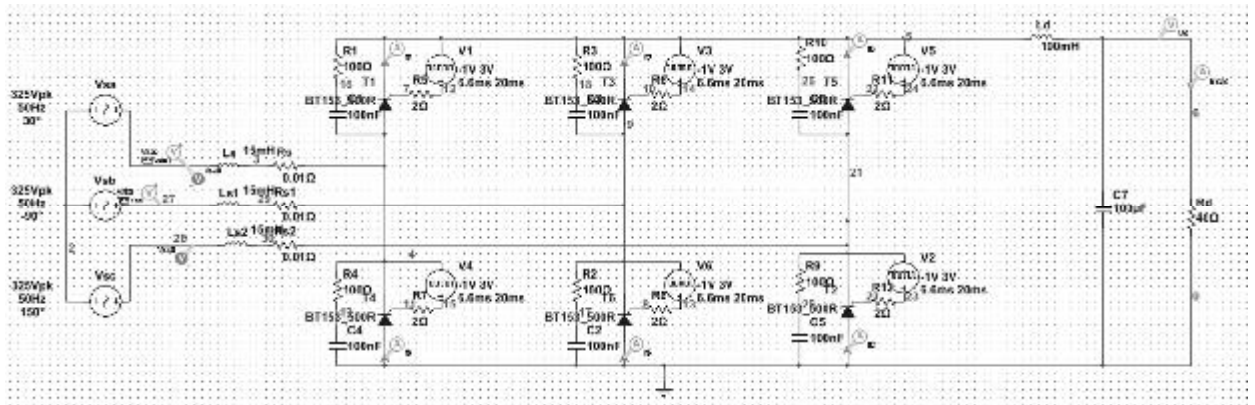

Figure 3
- Why can't an inverter be studied using the Multisim setup in Figure 3 used above?